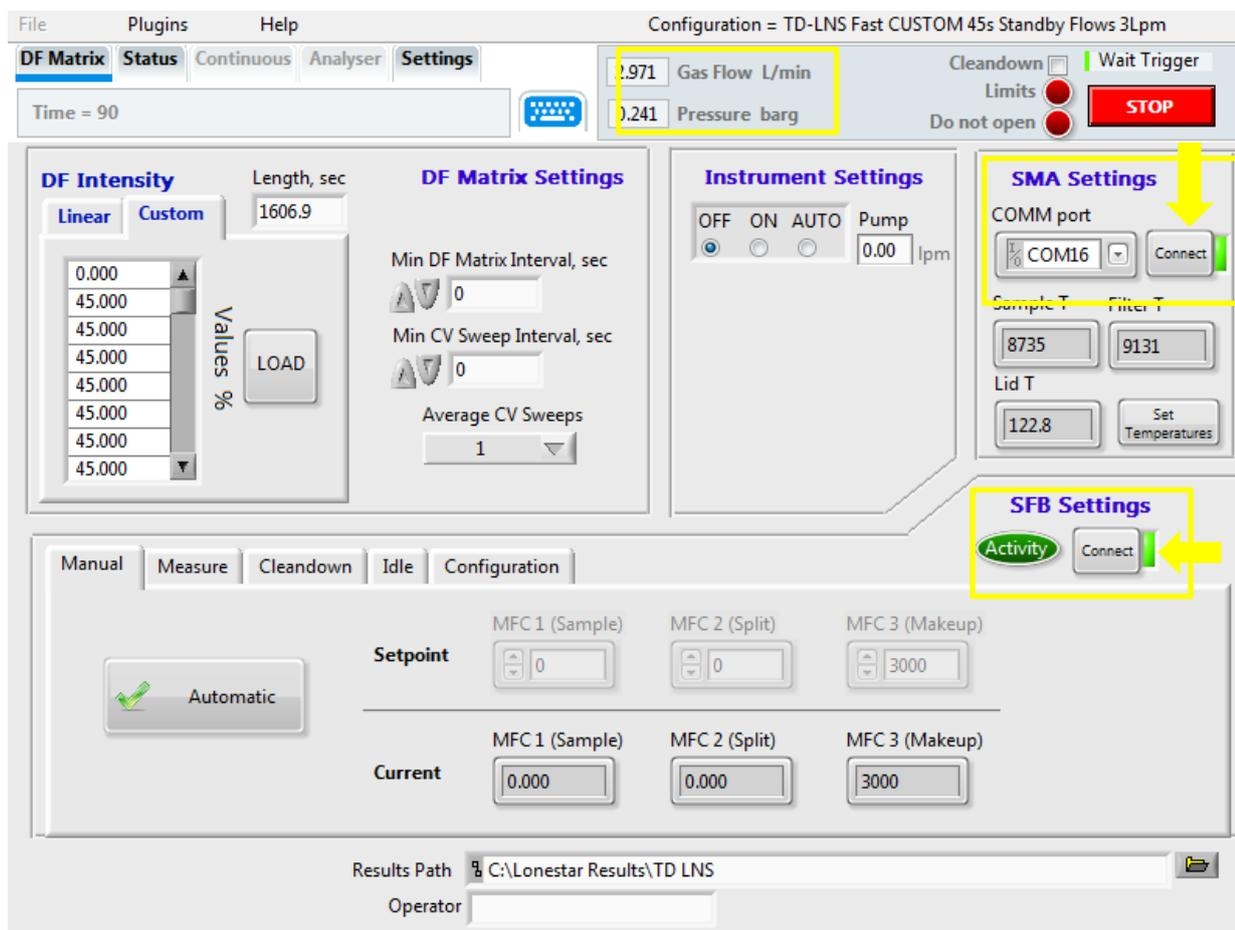

Figure 30. LNS interface screen. The yellow arrows point at the buttons that should be displaying “Connect”, press them if they are not.
5.8.4 If gas flow and pressure parameters are both zero, go to “Settings” and press the “COMM port” and “SFB settings” buttons, so that both display the message “Connect”, as shown in Figure 30.